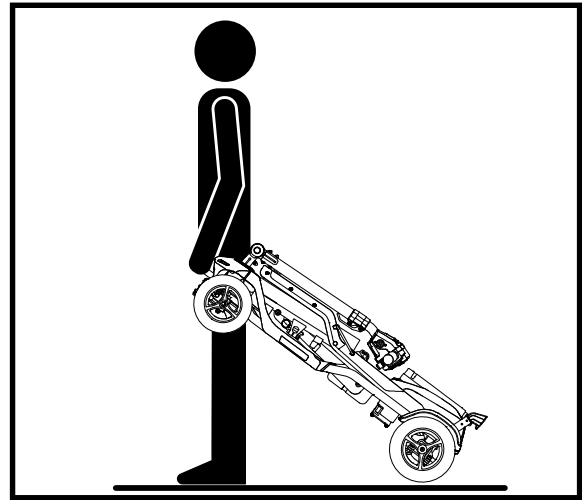

Figure 15. Transport
To transport your folded scooter (see figure 15):
2. Examine the fuse in the fuse holder. **See figure 15.** If the fuse is blown, it needs to be replaced.